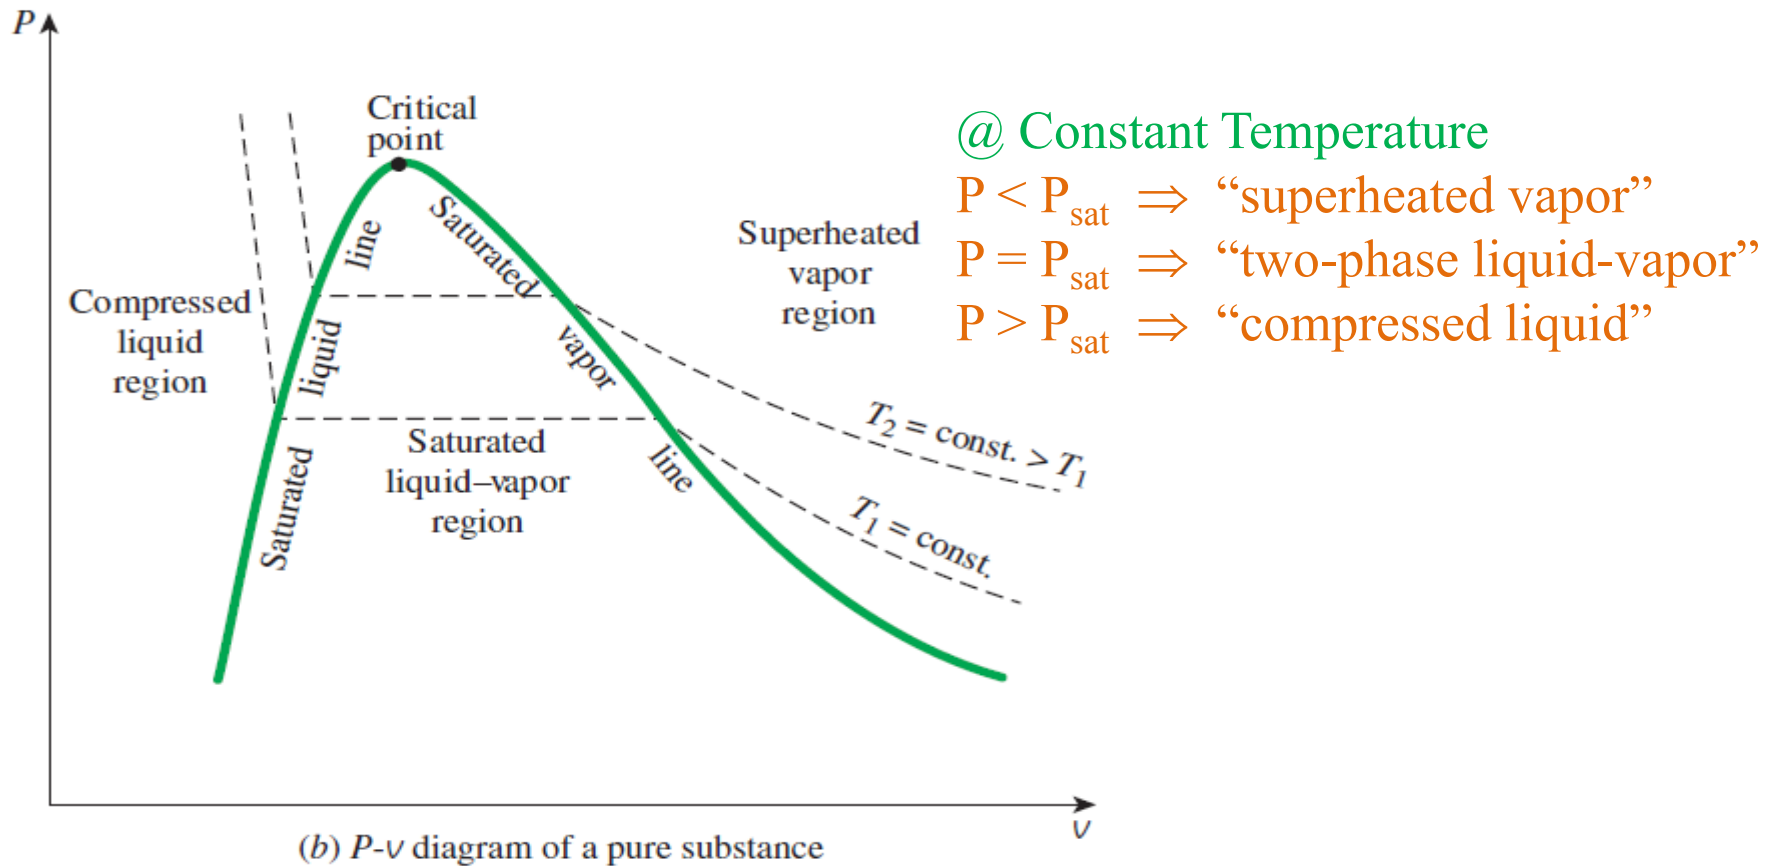

Fig. 3.12: P - v diagram of a pure substance
- The general shape of the P - v diagram of a pure substance is very much like the T - v diagram, but the constant temperature lines on this diagram have a downward trend, as shown in Fig. 3.12.
- If the process is repeated for other temperatures, similar paths will be obtained for the phase-change processes. Connecting the saturated liquid and the saturated vapor states by a curve, we obtain the P - v diagram of a pure substance, as shown in Fig. 3.12.